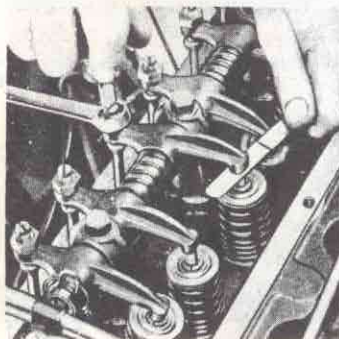

Fig. 65—Valve Tappet Adjustment
- With engine normalized, check the clearance between the rocker arms and the valve stems with a feeler gauge (fig. 65). The clearance should be: